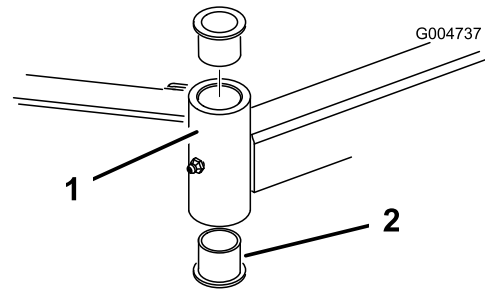

Figure 84
4. Insert a pin punch into the top or bottom of the mounting tube and drive the bushing out of the tube (Figure 84). Also drive the other bushing out of the tube. Clean the inside of the tubes to remove dirt.